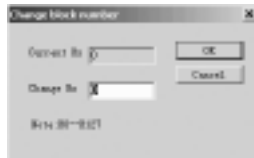
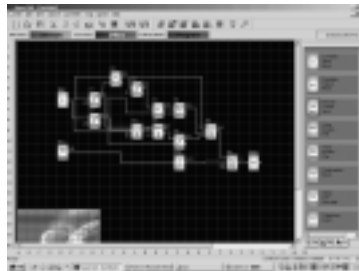

Fig. 4.11 Dialog Box of Modify Tab
Fig. 4.12 Start Simulation
1. Click “Start” in “Simulation” under the menu “Controller” with left button of the mouse. As shown in Fig. 4.11: It’s time to start program of simulation, or click “” in the toolbar with mouse, and it also can open simulation operation interface. It shows as Fig. 4.12.